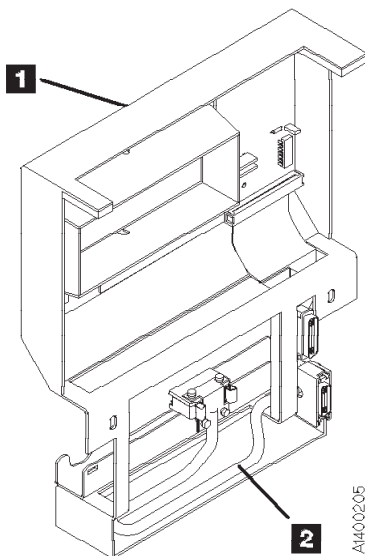

Figure 10-88. Operator Panel Cable
2. See Figure 10-88. Remove the library interface cover **1**. See “FID 93: Library Interface Cover (Model B1A/E1A/H1A Only)” on page 10-124, then return here.